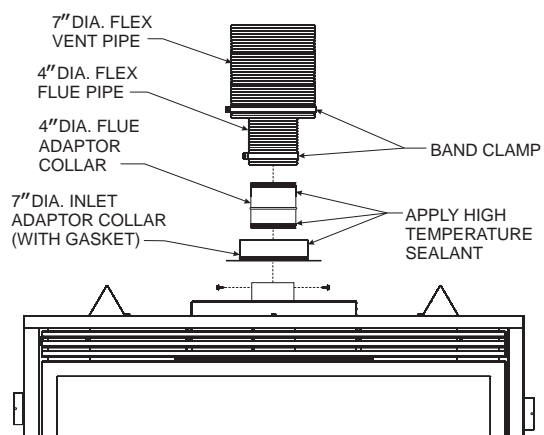

Figure 61
10. Apply sealant to the outside of the flue pipe adapter and connect to the flex flue pipe. Then insert the adapter into the fireplace flue. Secure flue adapter to the fireplace flue with a minimum of two screws provided. **See Figure 61.**